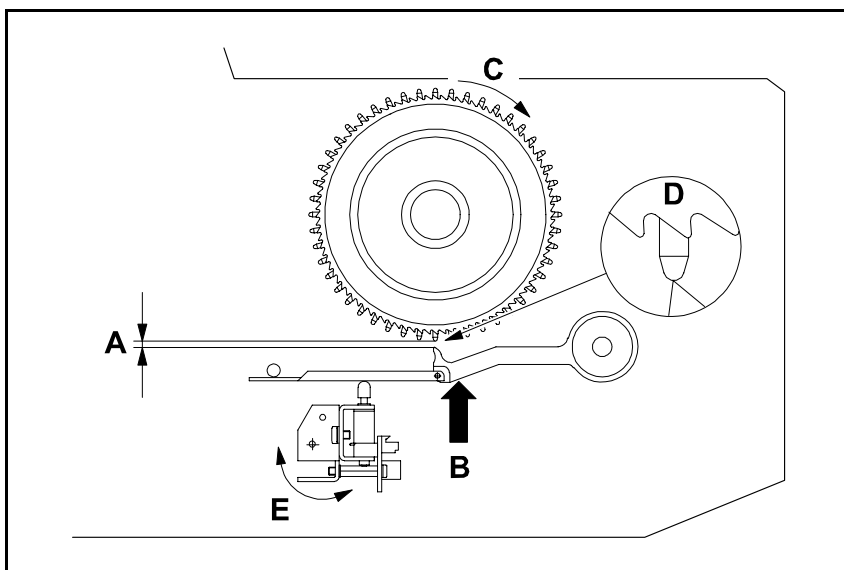

Figure 12. Feeder arm gap
39. Adjust the gap between the feeder wheels and the feeder arm tips ('A' in Figure 12) by turning the solenoid bar. The gap should be 0.5mm - 1.0mm.